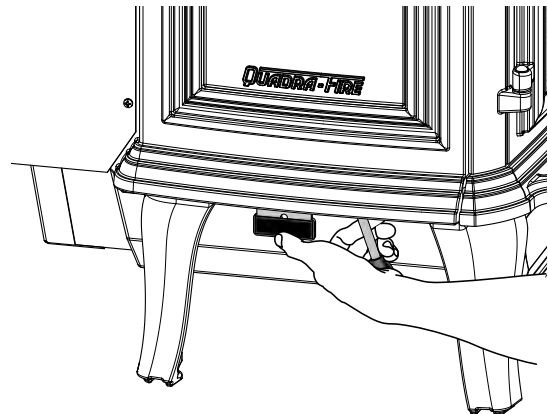

Figure 16.1
1. The appliance and ashes must be completely cooled down before using the Ash Removal System. Reach down and locate the ash removal door handle under the left side of the appliance in the center. Grasp the handle with your fingers and place your thumb on the latch release (**Figure 16.1**). Press the latch release inward. Keep the latch release pressed in and lower the handle gently. Take your thumb off the release once the handle is clear of the latch and guide the handle back until it stops.